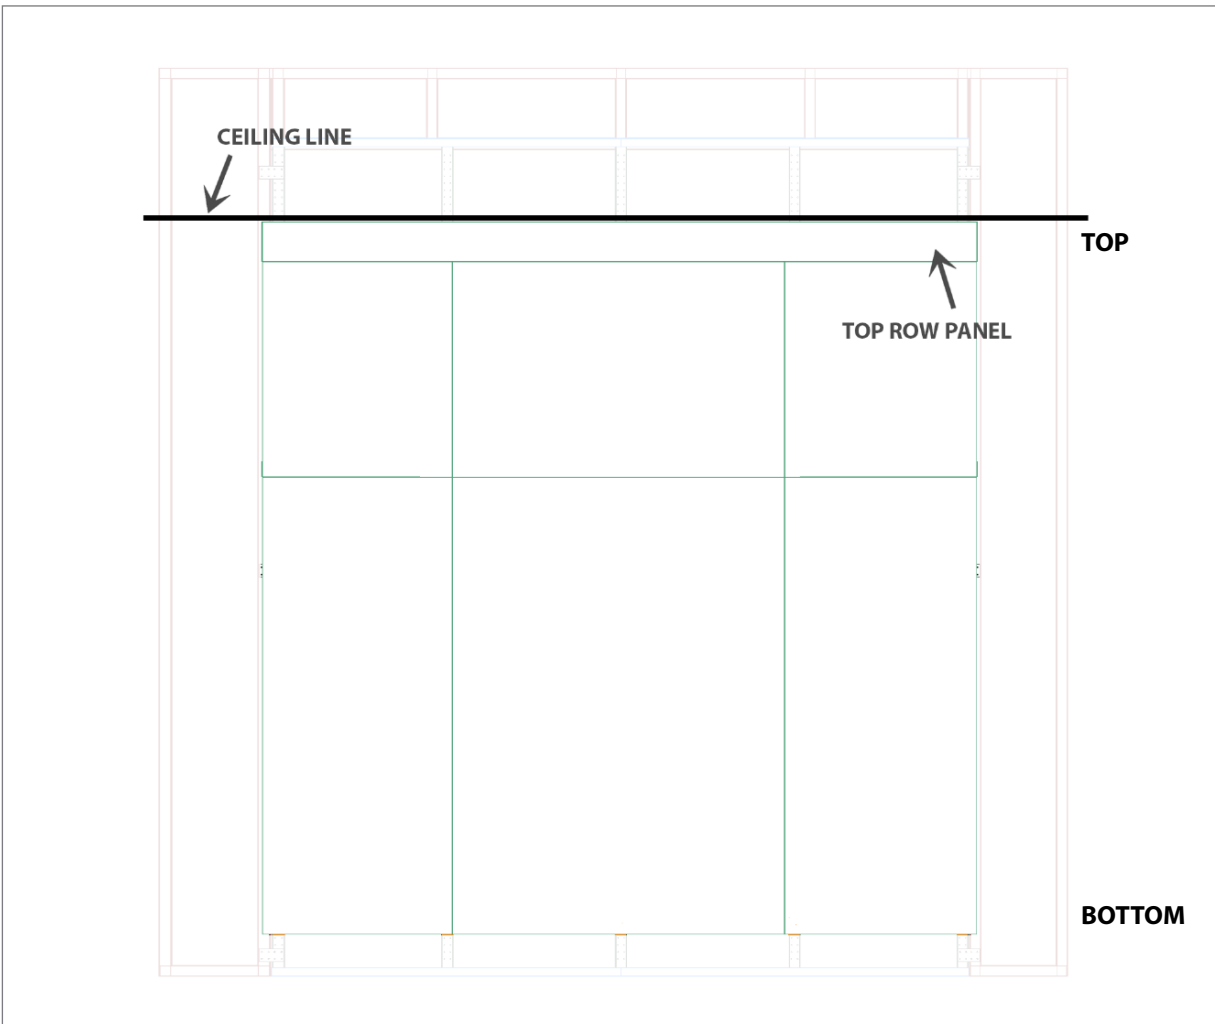

Figure 8: At Ceiling Line Panel Installation and Finishes
1. Install all panels except for the top row from **BOTTOM** to **TOP**, and **LEFT** to **RIGHT**, via lift and drop using Z-clips (see **Figure 8**).
2. Install top row of panels via spring clips (see **Figure 8**).